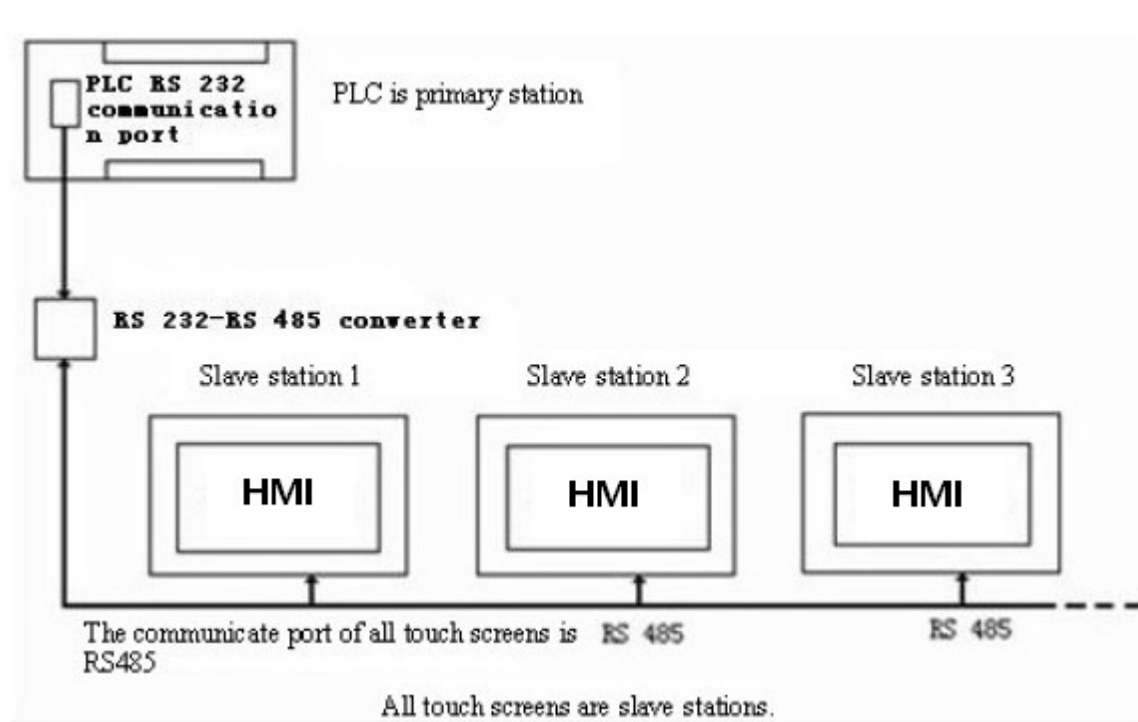

Figure 8-1 Sketch map of “One machine with multiple machines” when PLC(RS232) is Master station
1. The communication port of the PLC connected is RS232; connection methods and system settings are as shown in Figure 8-1, 8-2 and 8-3: